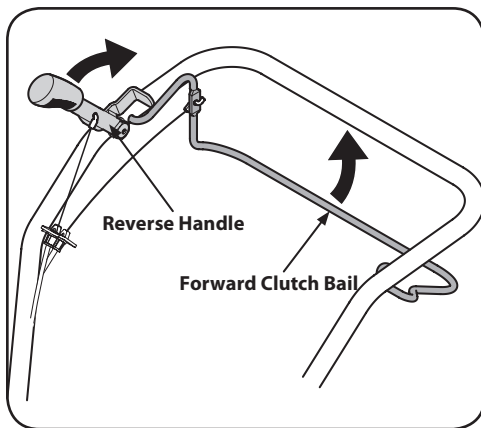

Figure 4-3
2. When tilling, relax and let the wheels pull the machine while the tines dig. Walk behind and a little to one side of the tiller. Use one hand, yet keep a light — but secure — grip on the handlebar (while keeping your arm loose). See Figure 4-3. Let the tiller move at its own pace and do not push down on the handlebars to try and force the tines to dig deeper — this takes weight off the wheels and reduces traction.